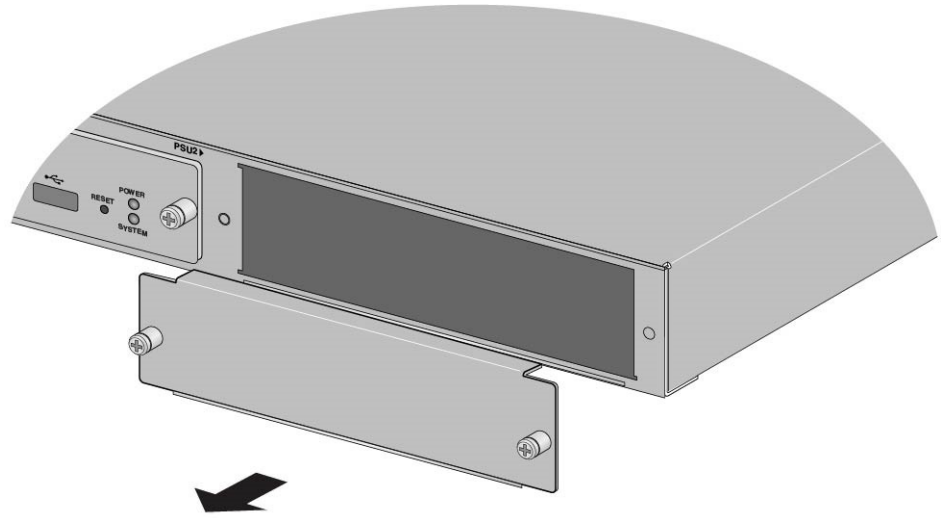

Figure 39. Removing the Blank Cover from a Power Supply Slot
3. Remove the blank cover. Refer to Figure 39 on page 74.